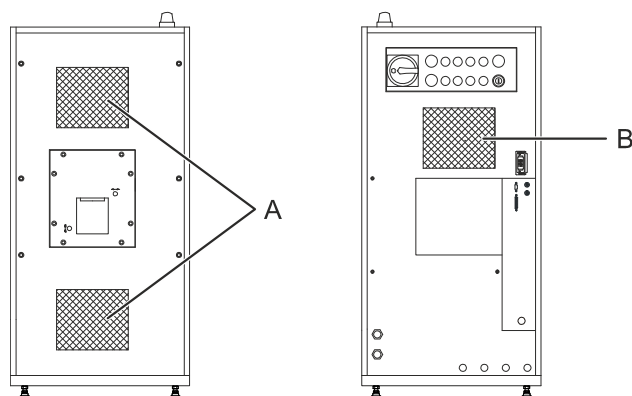

Figure 20: Location of air intake and exhaust
The laser device has two air intakes on the beam exit side (see Figure 20, A) and a central exhaust outlet with moderate flow rate on the connection side (B).